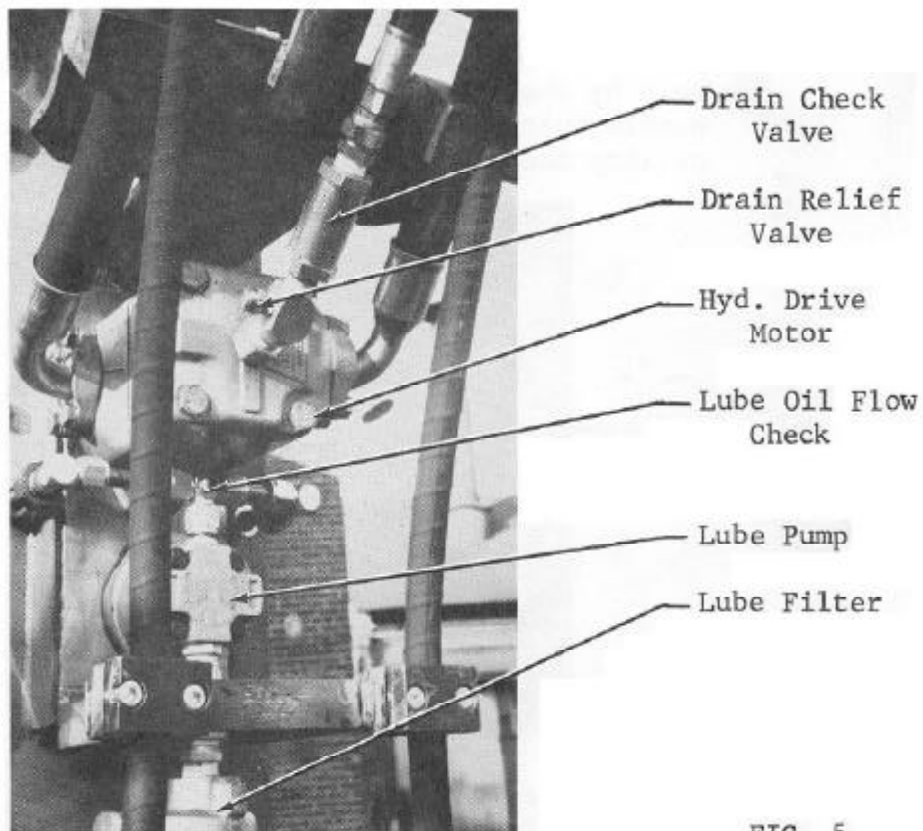

FIG. 5
- B. Before positioning the vibrator onto a pile, put the V-5 into the vibrate mode, free hanging, for a few seconds. Have an associate check the flow of lube oil by removing the pipe plug in the outside lube piping. See Fig. 5.
Vibrator lubrication is basically automatic and an occasional check of flow during operation by removing the pipe plug in the lube outside piping is all that should be required. See Fig. 5, Page 8. The gear-bearing-eccentric housing is sealed and the oil level should not change.